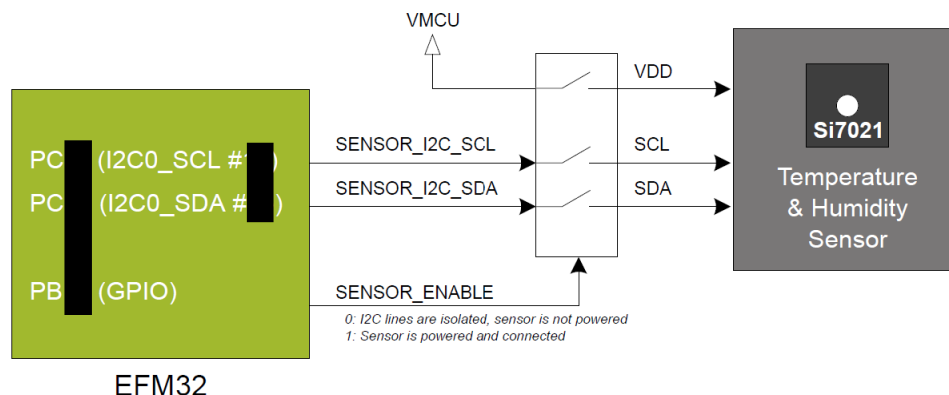

Figure 6.4. Si7021 Relative Humidity and Temperature Sensor
1. To locate what pins are connected / routed from the Pearl Gecko to the Si7021, open up the Pear Gecko STK3402 Start Kit document and go to figure 6.4. I have blackened out several key pieces of information so that you will need to find this documentation in the Pearl Gecko STK3402 Start Kit document.
2. In the Pearl Gecko STK3402 Starter Kit document, go to figure 6.4. Complete the below definitions based on the information to the
left of each signal in figure 6.4 for the below #define statements in `brd_config.h`.
- iv. From Figure 6.4, you will notice that there are three control signals that go from the Pearl Gecko to the Si7021. The `SENSOR_ENABLE` bit is used to select via an external device to the Pearl Gecko whether the Pearl Gecko pins are connected to the Si7021.
1. In Figure 6.4, under `SENSOR_ENABLE`, it provides the information on whether `SENSOR_ENABLE` must be ASSERTED, 1, or DEASSERTED, 0, to connect the two devices